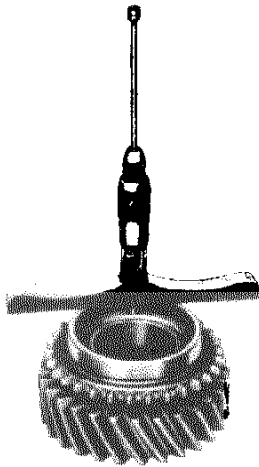

Figure H18
2. THIRD SPEED CONSTANT DRIVE GEAR END FLOAT **Fig. H18.**